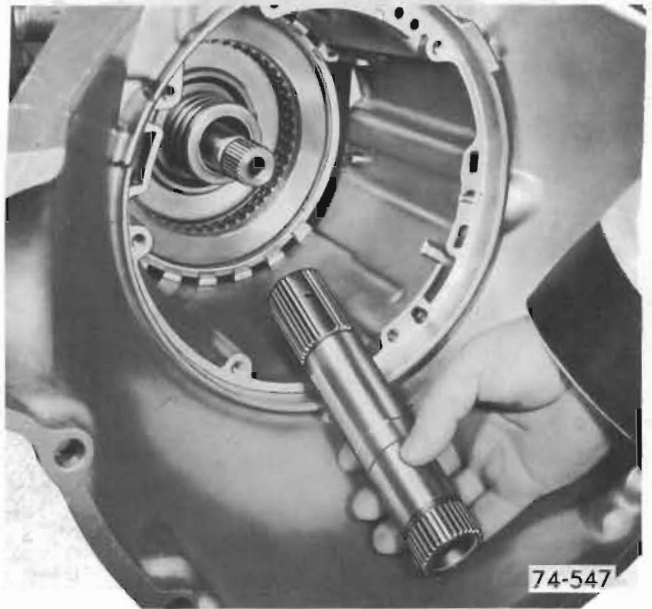

Figure 76-89
9. Remove sun gear shaft. See Figure 76-89.